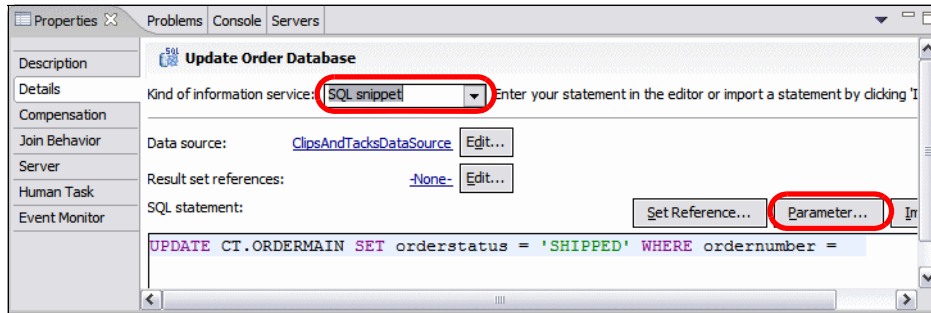

Figure 10-81 Update Order Database: Information service properties
- ▶ With Update Order Database selected, select the *Details* tab in the Properties view (Figure 10-81):
A better approach is to add an information service activity after the Cancel Order and Send Notification activity to update the status of the order. For instructions, see Figure 10-81 on page 290. The SQL statement would be: